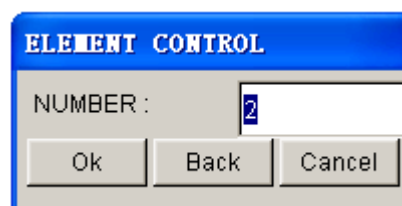

Figure 5.3.13 Element Control
- Enter the size or number of elements to be created in the Element Control dialog box as illustrated in Figure 5.3.13. Then, click on OK button.